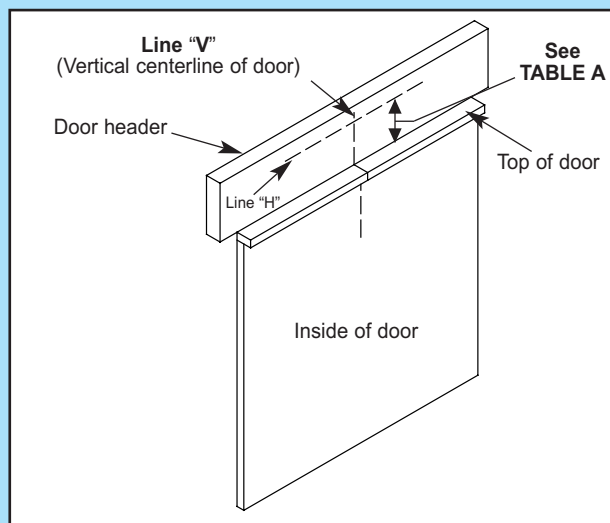

Fig. 2-9
1. Establish center line of door and header (Fig. 2-9).
3. Locate header bracket (Fig. 2-9).